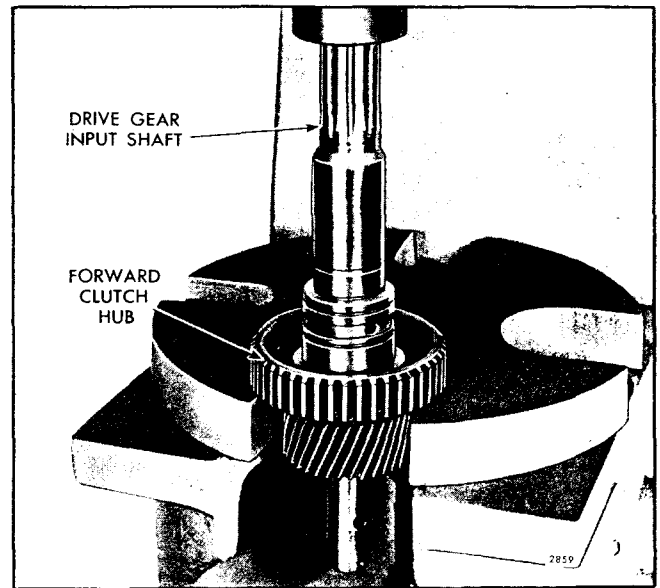

Fig. 31 - Removing Forward Clutch Hub from Drive Gear Input Shaft
- d. Support the drive gear input shaft and forward clutch hub assembly on the bed of an arbor press with the rear face of the clutch hub resting on the bed of the press as shown in Fig. 31.
- e. Then press the drive gear input shaft straight out of the forward clutch hub as shown in Fig. 31. Catch the drive gear input shaft by hand to prevent it from falling and being damaged when pressed from the hub.